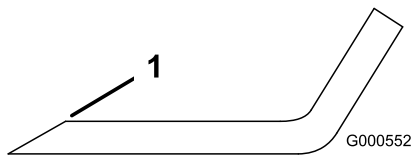

Figure 49
1. Use a file to sharpen the cutting edge at both ends of the blade (Figure 49).
**Note:** If the blade is not balanced, file some metal off only the end of the sail area (Figure 49).